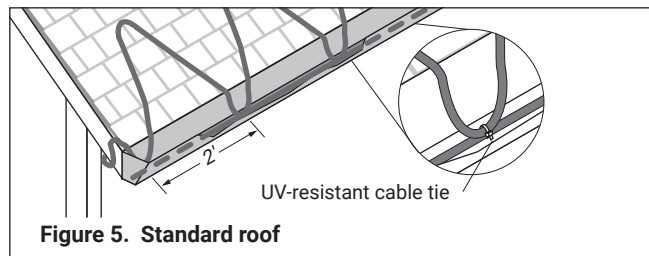

Figure 5. Standard roof
- Loop the heating cable on the overhang area of the roof. This is the part that extends past the building wall. Extend the bottom of each heating cable loop over the roof edge and, using a UV-resistant cable tie, connect the bottom of each loop to the cable running in the gutter to ensure a drainage channel off the roof and into the gutter and downspout. The cable running in the gutter should remain against the bottom of the gutter as shown in Figures 5 and 6.